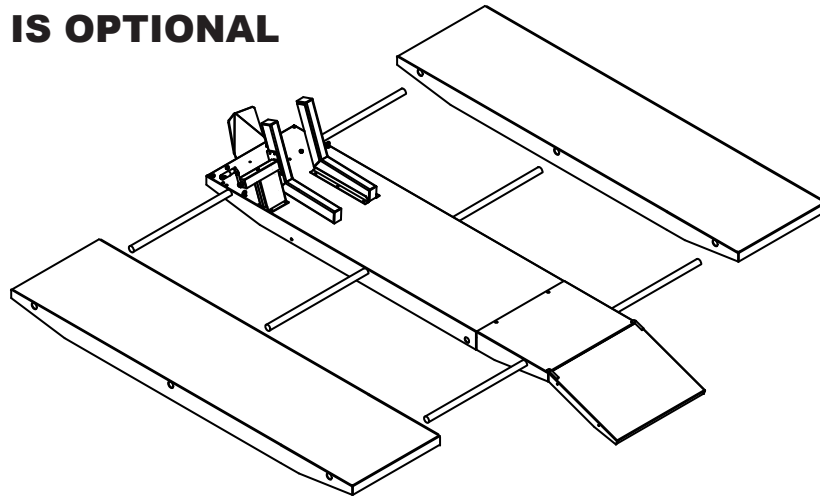
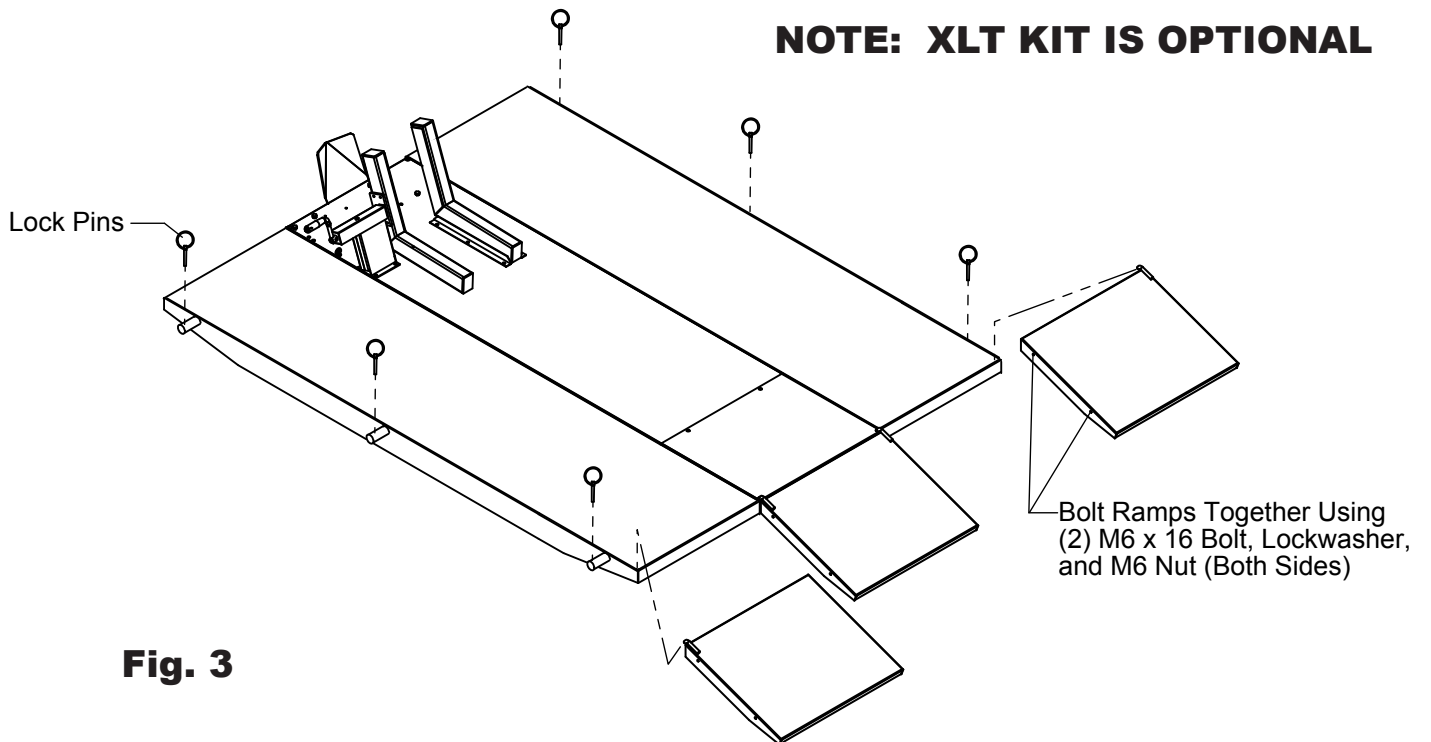

Fig. 2
Fig. 3
1. Run the Extension panel tubes through the holes on the side of the table. Install the side extensions onto the protruding tubes, Fig. 2. Use locking pins to secure the tubes, Fig. 3.
2. Drop the ramps for the side extensions in place as shown, Fig. 3. Attach using M6 x 16 bolts, lockwashers, and nuts, Fig. 3.